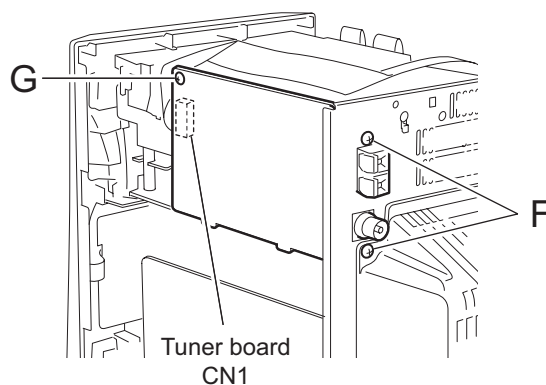

Fig.7
2.1.4 Removing the tuner board (See Fig.7)